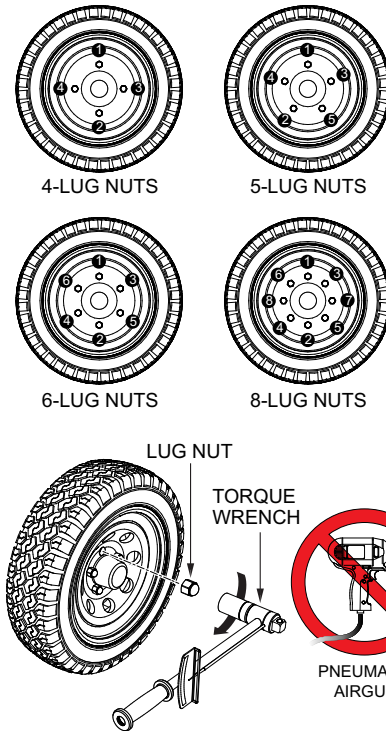

Figure 47. Wheel Lug Nuts Tightening Sequence
2. Torque (tighten) all lug nuts in sequence (Figure 47). **DO NOT** torque the wheel lug nuts all the way down. Torque each lug nut in **3 separate passes** as defined in Table 9.